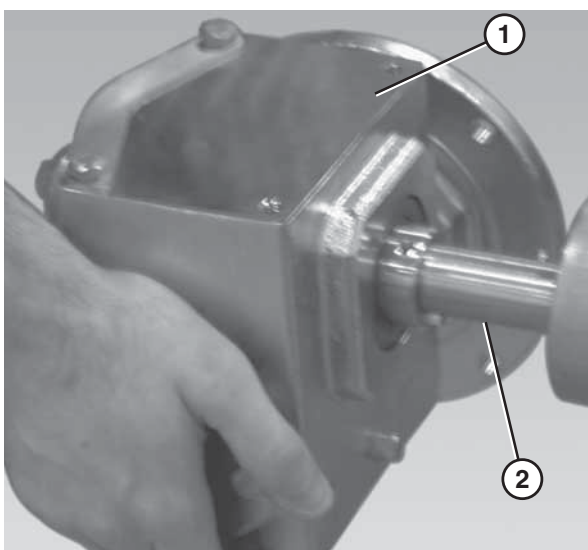

Figure 22
3. Slide the gearmotor assembly (**Figure 22, item 1**) onto the drive spindle (**Figure 22, item 2**).